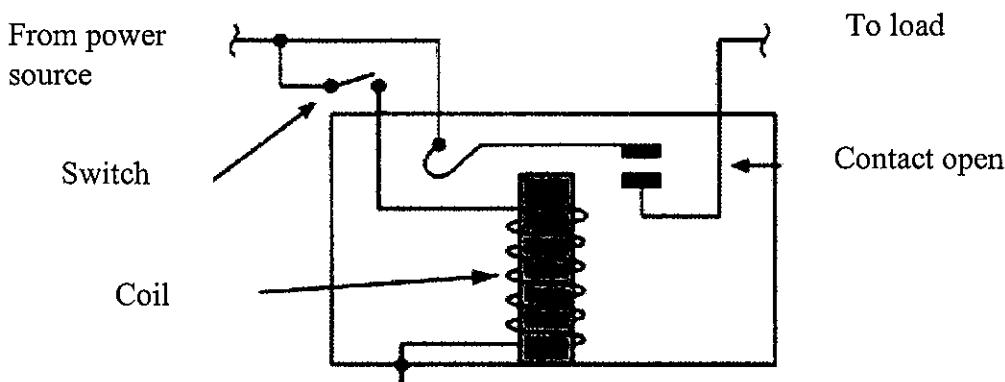

Figure A1(b) / Rajah A1(b)
- CLO1 (b) Based on Figure A1(b) below, explain the electromechanical relay operation.